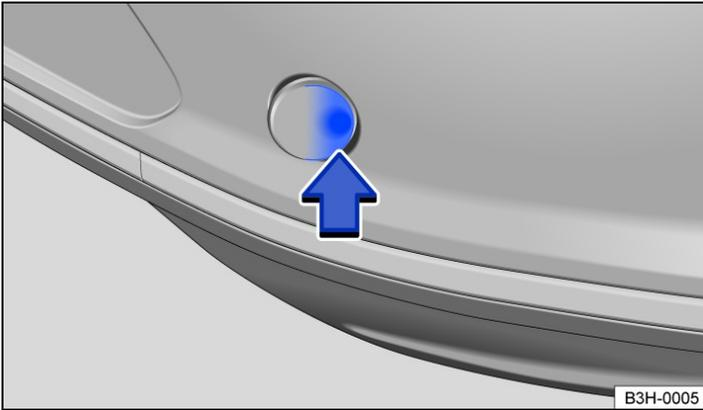

Fig. 1 In the rear bumper on the right: removing the cover, variant 1.
2. Press the marked area of the cover in the direction of the arrow to release the cover catch → Fig. 1.